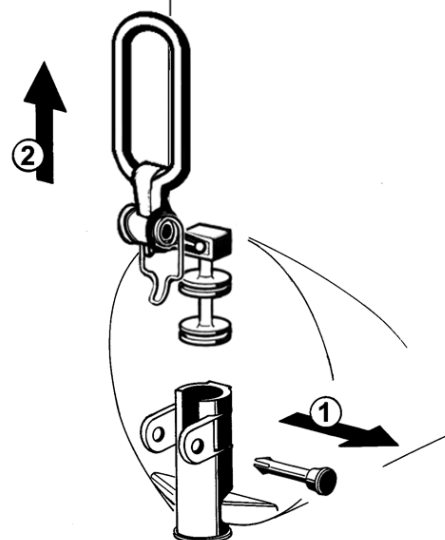

figure 11
5 - Dismantle the faucet assembly (see figure 11).
- 3 - Assemble the faucet by reversing the disassembly steps (see figure 11)